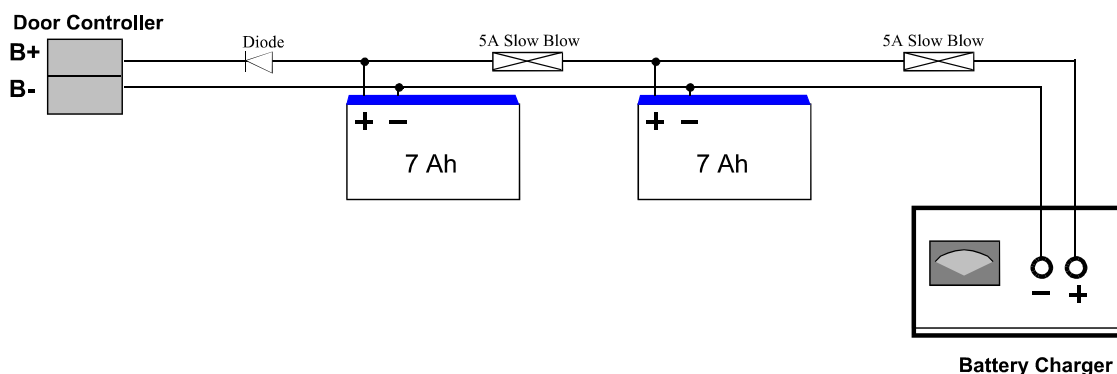

Figure 18 Using an External Battery Charger
In order that a fully discharged battery can recover to a fully charged state within 24 hours, consider using an external charger when using more than a 7Ah battery. Use the wiring shown in Figure 18.
3. It is recommended that a diode is installed as shown in Figure 18.